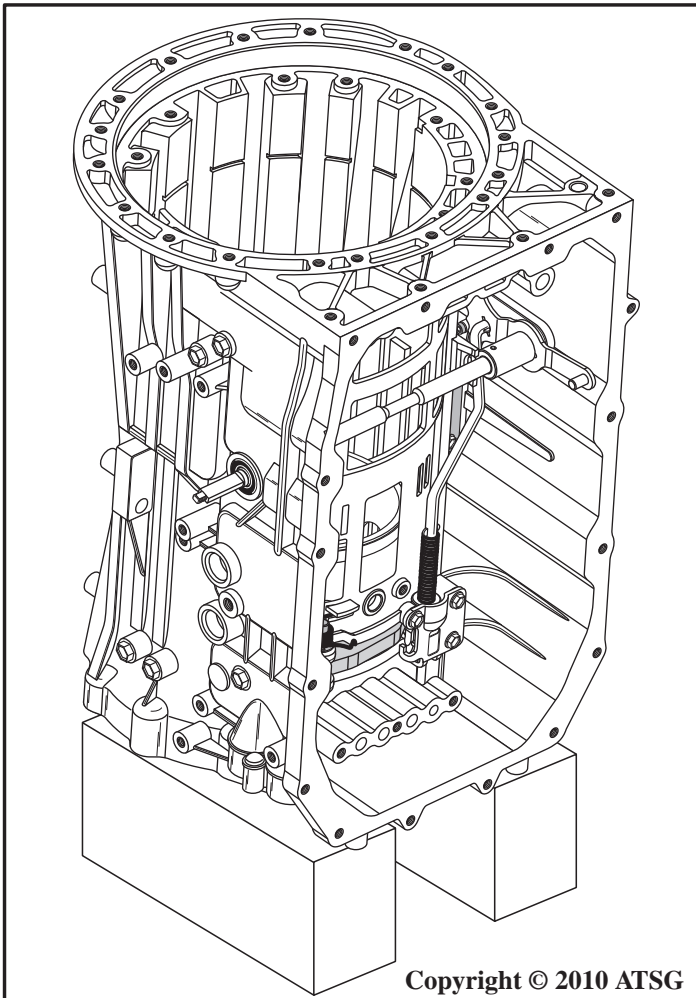

Figure 200
1. For transmission assembly we found the easiest method was to place two 4" X 6" blocks on the floor and set the completed transmission case assembly on top, as shown in Figure 200.